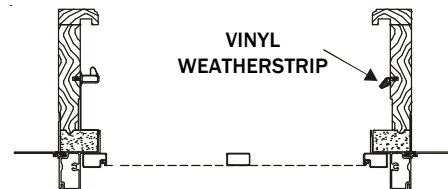

Fig. 7
6. Install the new foam weatherstrip into the side jamb that the exterior sash will be seated against, Fig. 7. This weatherstrip will replace one the vinyl parting stop that you removed earlier.